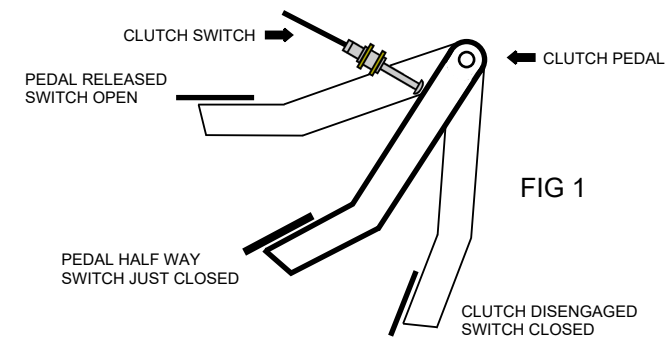

FIG 1
1. Mount the clutch switch (supplied) above the clutch pedal, as shown in Fig 1. Using two nuts and washers, lock the switch into position such that the switch loses contact with the pedal itself when the pedal is depressed to its halfway position. The clutch switch must have good electrical contact with the vehicle's chassis EARTH.